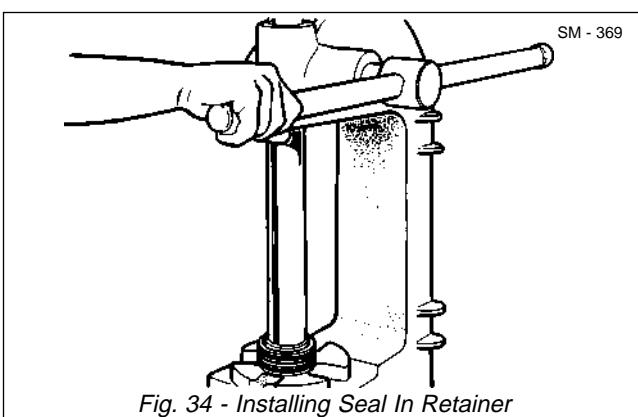
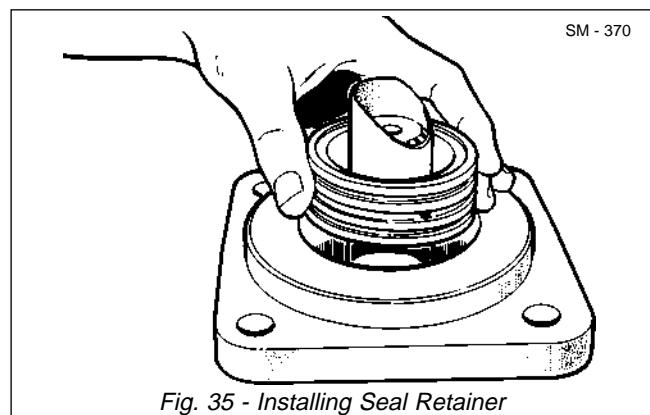

Fig. 34 - Installing Seal In Retainer
Fig. 35 - Installing Seal Retainer
16. Coat the OD of seal (5) with Loctite Seal retainer or equivalent. Press seal (5), metal side down, into seal retainer (3) on an arbor press using a 70 mm (2.75 in) diameter bar. See Fig. 34. Be careful not to damage the lip of seal (5).
17. Clamp pump assembly in a soft-jawed vice, driveshaft (12) up.
18. Coat a new 'O' ring (4) with grease and install on seal retainer (3). Oil a seal installation sleeve and twist into the seal ID carefully. Slide the sleeve and seal over driveshaft (12) and seat seal (5) and seal retainer (3) assembly firmly in shaft end cover (6) bore. Remove seal installation sleeve. See Fig. 35.
19. Insert spacer (2) over driveshaft (12) and install